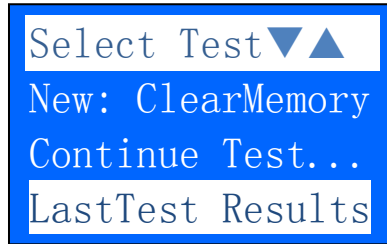

Figure 67
3. Pressing  key once will scroll down to the 'Last Test Results' Fig. 67 below.